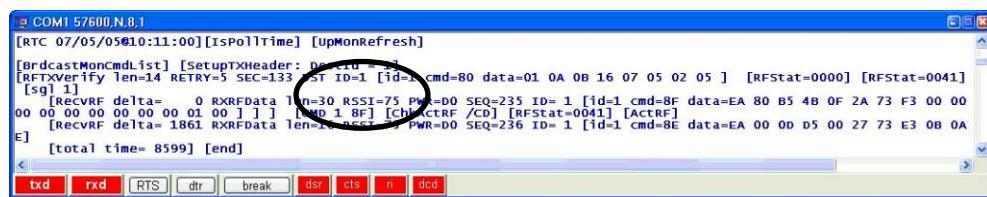

Fig. 8.15: RSSI Value
- 8.7.5 On the Floating Terminal screen, locate the RSSI value for the Monitor polled. Fig. 8.15